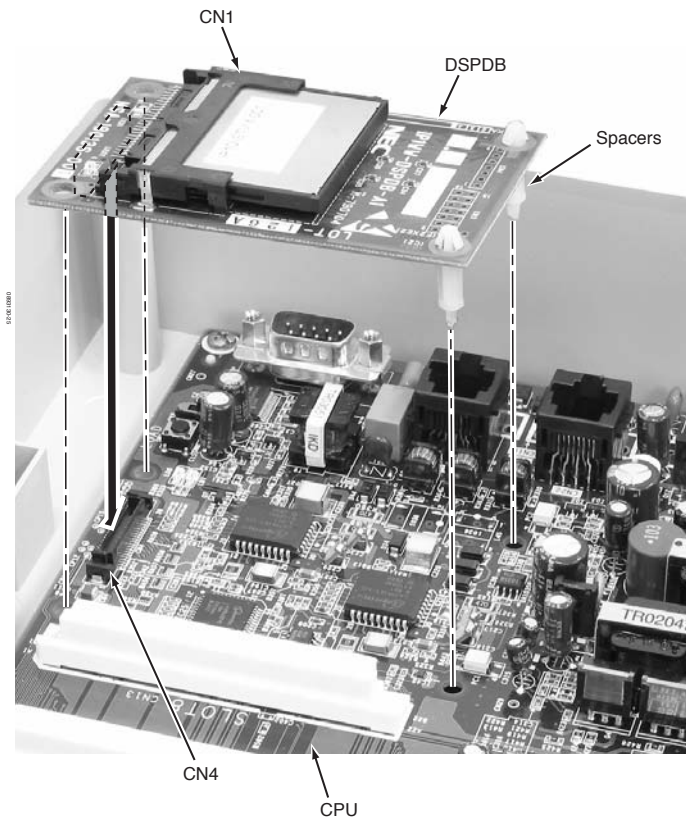
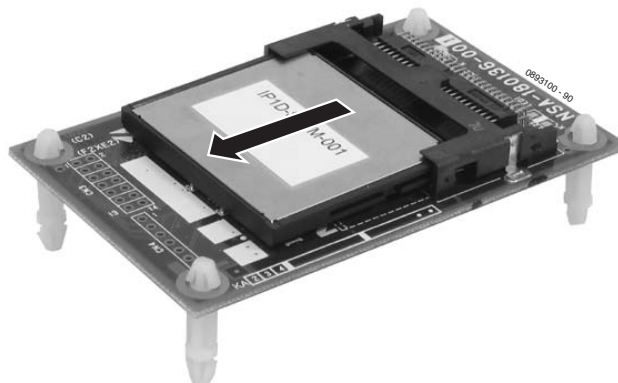

Figure 2-4: DSPDB DAUGHTER BOARD INSTALLATION
Figure 2-5: REMOVING THE COMPACT FLASH CARD
2. Install the DSPDBU daughter board if required. Refer to **DSPDB Daughter Board (Figure 2-4, Figure 2-5)** (page 2-13).
### DSPDB Daughter Board (Figure 2-4, Figure 2-5)